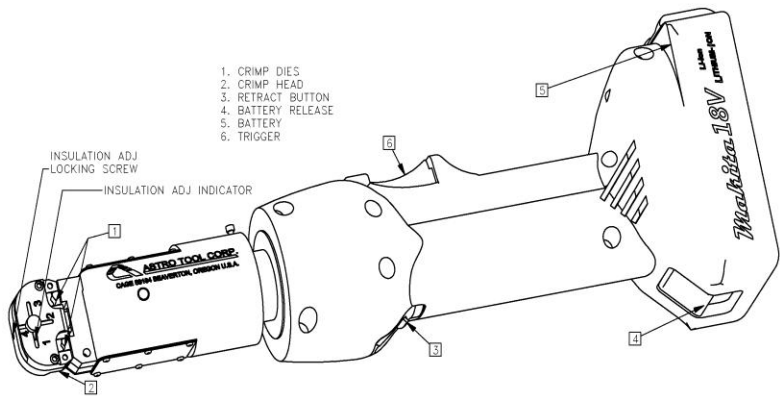

Figure 2
Each tool has four insulation crimp positions. (See Figure 2)
1. Loosen the insulation adjustment locking screw, and turn the indicator to position 4. (See Figure 2)